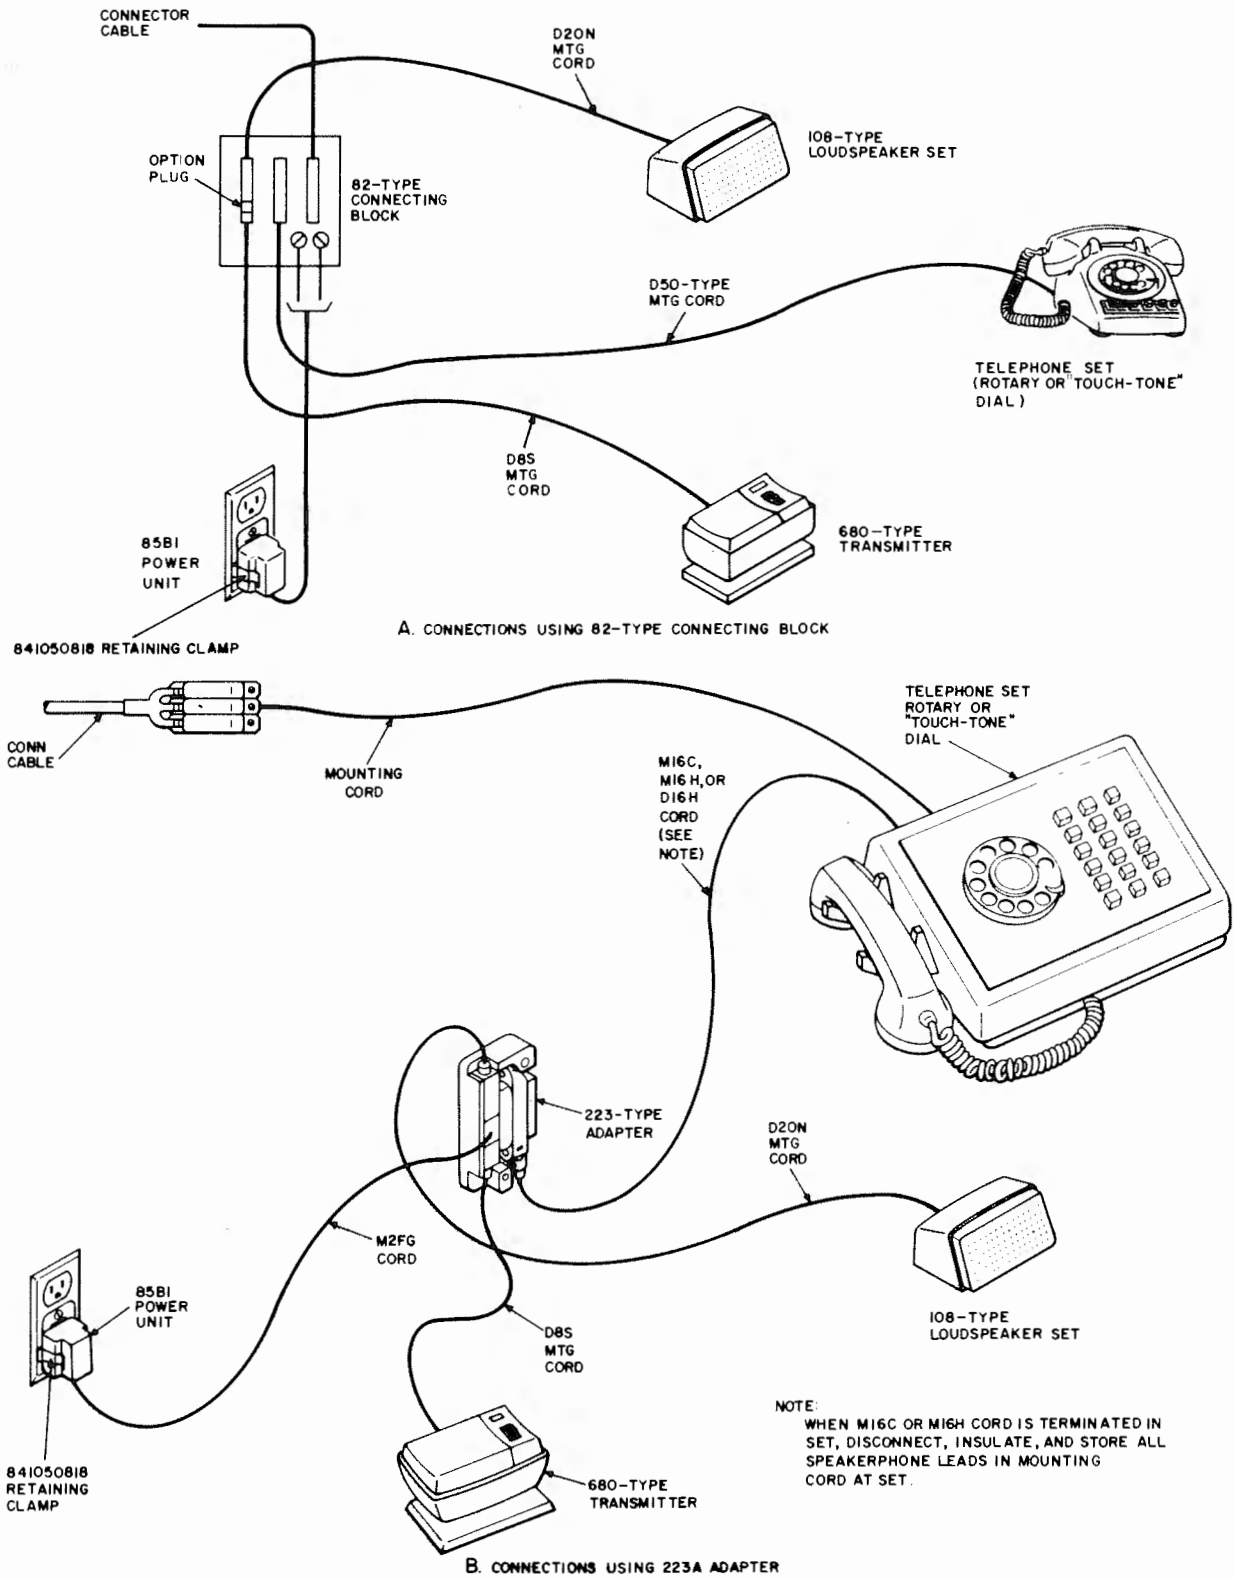

Fig. 1—Typical Arrangements of 4A Speakerphone System
**2.23** A retaining clamp (841050818) (Fig. 1 and 2) will be shipped with the 85B1 power unit and should be mounted to the ac receptacle to hold power unit securely and to prevent accidental loss of power.